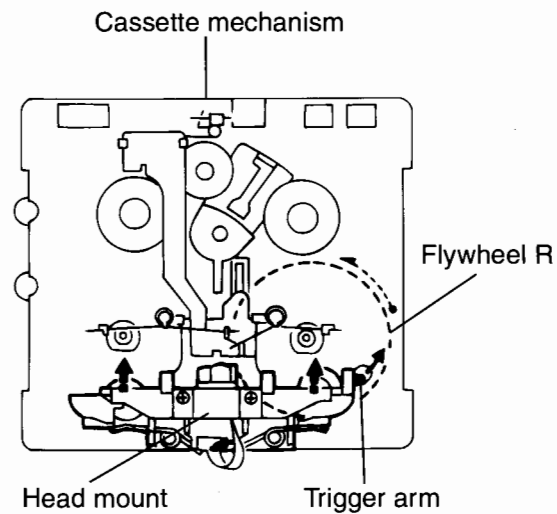

Fig. 1
( See Figs. 1 and 2 )
1. While shifting the trigger arms seen on the right side of the head mount in the arrow direction, turn the flywheel R in counterclockwise direction until the head mount has gone out with a click (See Fig. 1).
### (2) Life of the laser diode (Fig.1)
(Fig.1)